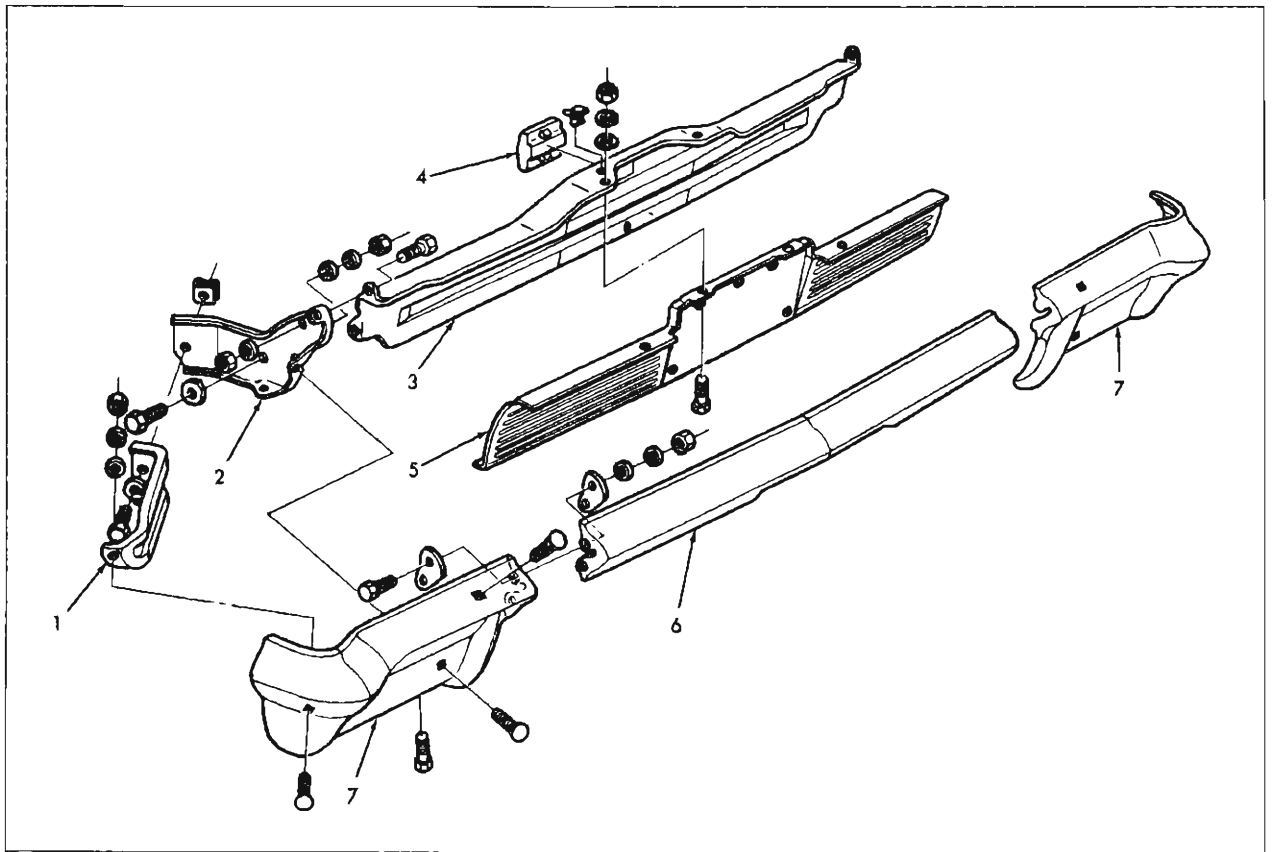

Fig. 131—Exploded View of Rear Bumper
Disassembly (fig. 131)
4. Separate three sections of face bar by removing bolts shown in Figure 131.